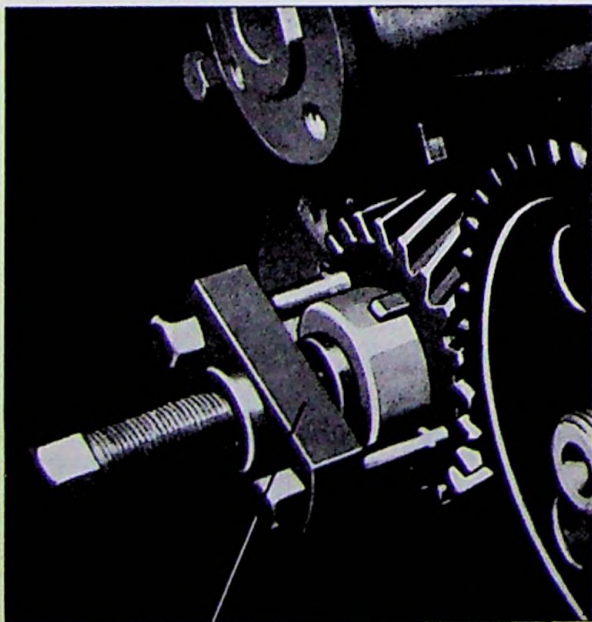
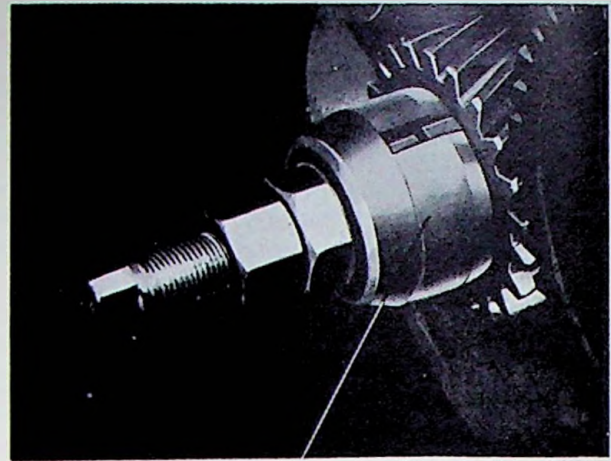
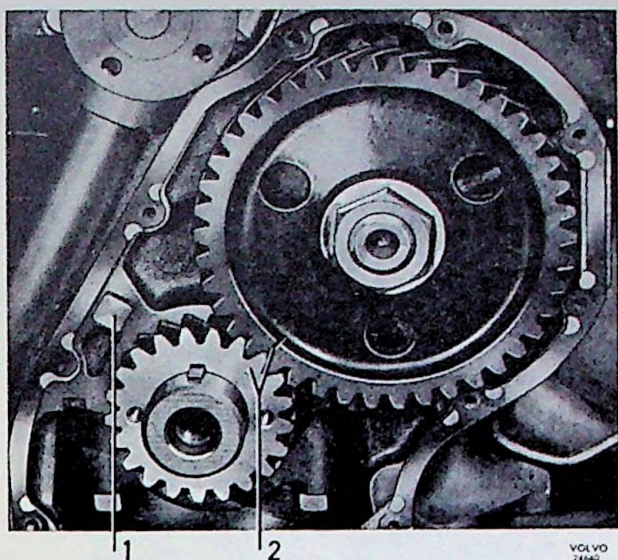

Fig. 48. Removing the crankshaft gear
Fig. 49. Fitting the crankshaft gear
Fig. 51. Marking on timing gears
5. Full off the crankshaft gear by using puller SVO 2405, Fig. 48. Screw out the oil nozzle, blow it clean and then refit it as shown in Fig. 51. The gears are lubricated by oil fed through this nozzle.
6. Fit the crankshaft gear by using tool SVO 2407 and the camshaft gear by using SVO 2408, see Figs. 49 and 50. Fit the hub on the crankshaft. Do not push the camshaft backwards so that the seal washer on the rear end loosens. Check that the gears have the correct position relative to each other, as shown in Fig. 51. Tool SVO 2407 has wrench flats, intended for turning the crankshaft.